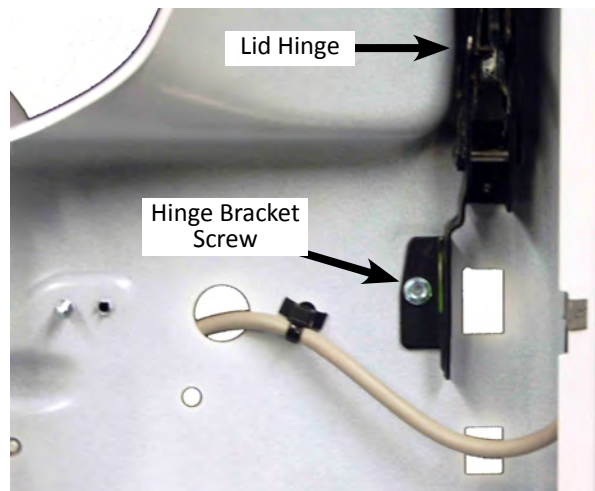

Figure 4
6. Remove the 1/4" hex-head screw from the hinge mounting bracket, and remove the hinge from the cabinet top (see Figure 4).